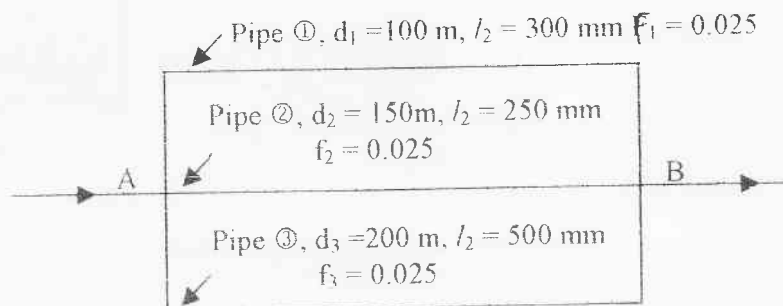

Fig T2.9
9. Water flows in parallel pipe system show in Fig T2.9. The supply pipe to point A is of 300 mm diameter and the mean velocity of water in it is 3 m/s. If the elevation of point A is 100 m and the elevation of point B is 30 m above the datum, calculate the pressure at point B if that at A is  $200 \text{ kN/m}^2$ . What is the discharge in each pipe? Neglect all minor losses.